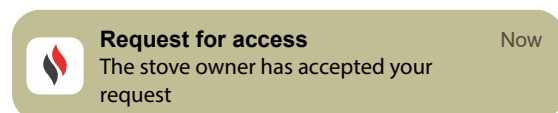

Fig. 35
- when the access request is accepted by the "owner" account, a notification will be sent to the new account pending confirmation (Fig. 35).